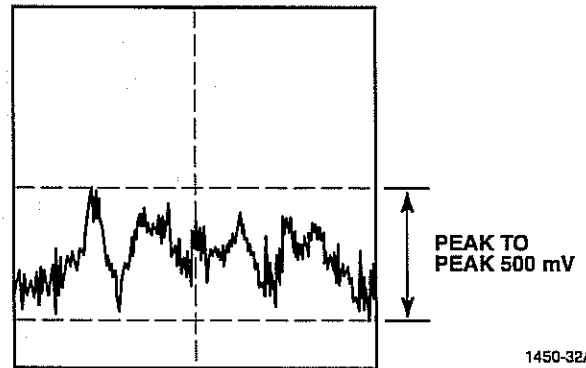

Figure 3-27. Peak-to-Peak 500 mV Waveform.
- b. Look at the oscilloscope to confirm that the peak-to-peak value is less than 500 mV. (See Figure 3-27.)